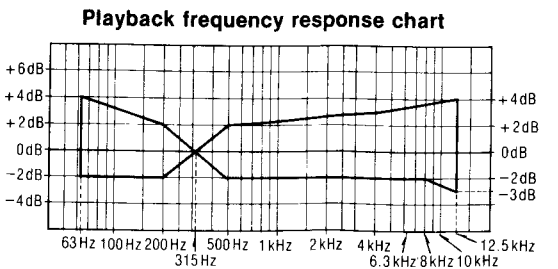

Fig. 8
5. Make sure that the measured values are within the range specified in the frequency response chart (Shown in fig. 8).
9. Place UNIT into metal reference 1kHz, 50Hz, 12.5kHz and 1kHz and check if the overall frequency response is within the range specified in the frequency response chart (Shown in fig. 8).